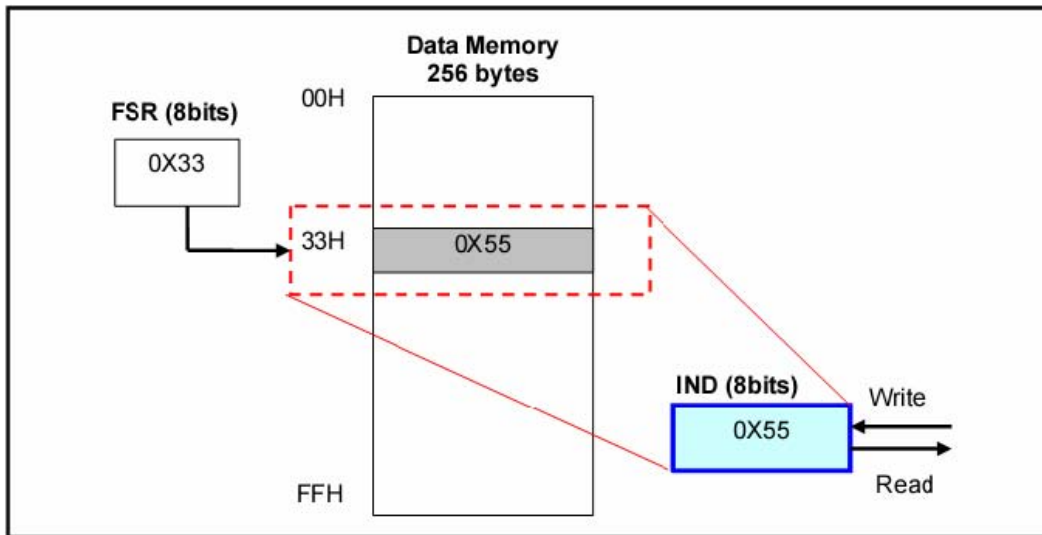

Figure 2-4 IND & FSR function description
3. The IND (Indirect Addressing) register is not a physical register, but indirect addressing needs the IND register. Any instruction using the IND register actually accesses the register pointed by the FSR (File Select Register). While user reads data from the IND register, the CPU gets the data from the Data Memory at the address stored in FSR. While user writes the data into IND register, CPU actually saves the data into Data Memory at the address stored in FSR. Please see Figure 2-4.